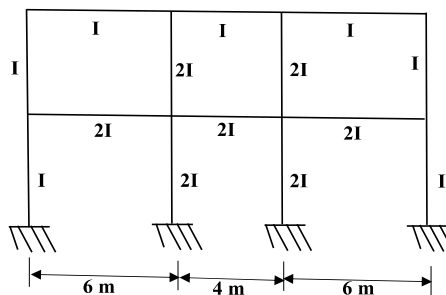

Figure. 2
- 2 a) Find the maximum hogging moment and shear force at the support due to gravity loading in the frame shown in Figure.2. Frames are spaced at 3.0 m c/c. Dead load = 3 kN/m², Live load = 2 kN/m², Weight of beam = 2 kN/m and storey height = 3 m.